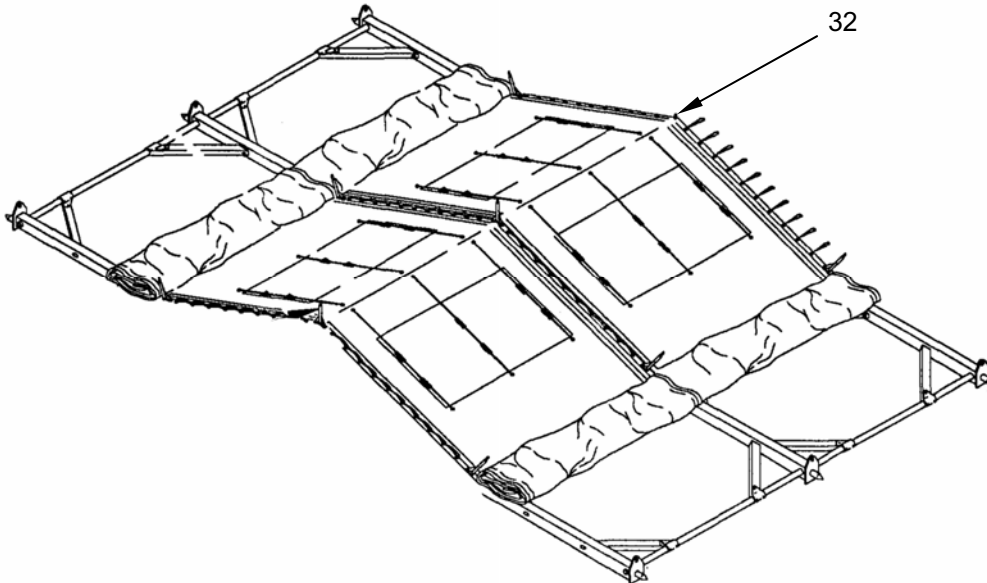

Figure 19. Place Large Spindle Grommet.
2. Place large spindle grommet located at peak of end section over ridge spindle (**Figure 19, Item 32**) opposite container.